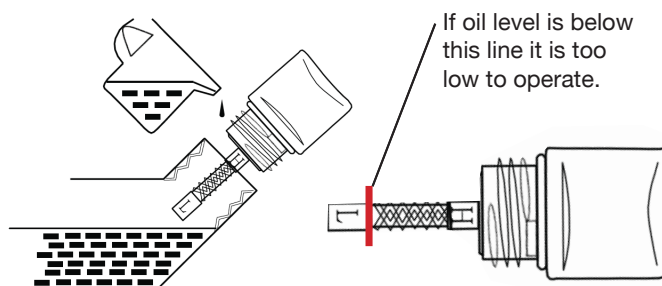

Figure 21 - Checking Oil Level
- **Acceptable Oil Level** – Oil is visible on the crosshatches between the H and L lines on the oil fill plug/dipstick (see Figure 21).
4. Place oil pan (or suitable container) under the oil drain plug (see Figure 21).